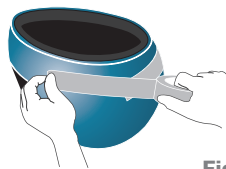

Figure 2
- 1 Apply masking tape around the bottom of your helmet approximately 1" (26mm) up from the top edge of the rubber molding. **See Figure 2**